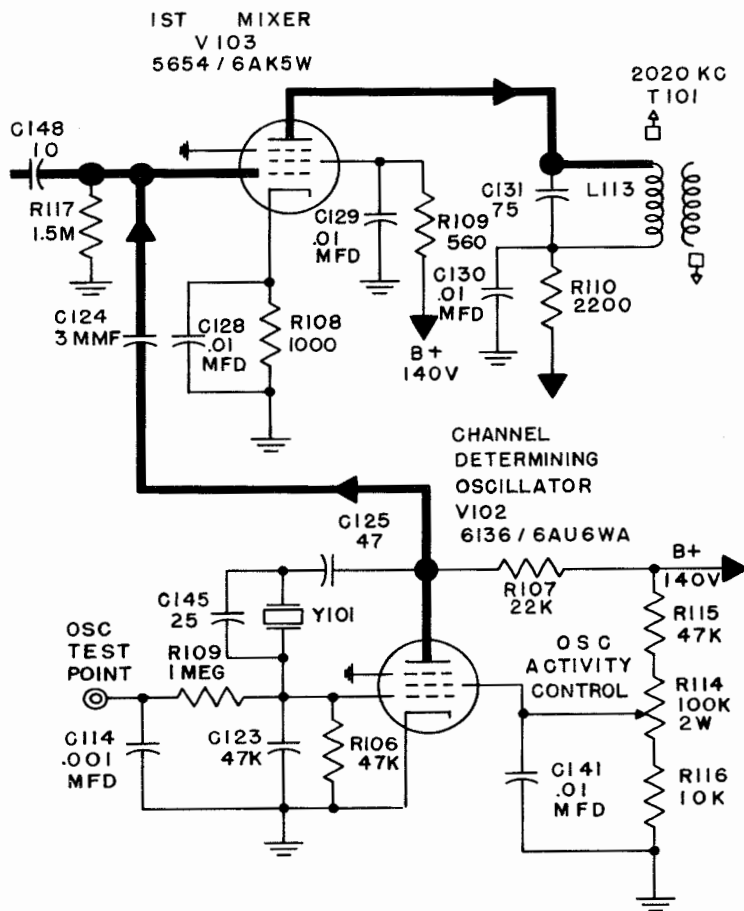

Figure 2-7. Simplified Schematic, 1st Mixer, Channel Determining Oscillator
—This portion of the RF chassis assembly determines the frequency of the signal to which the receiver will respond, if the RF circuits are properly resonated. (See Figure 2-7). It consists of a type 6136/6AU6WA pentode (V102) which functions as a Pierce oscillator, having a range of 6,990 Kc to 14,990 Kc. The oscillator must generate an injection frequency which is 2020 Kc higher than the desired channel frequency in the lower half of Band I for all channel frequencies below 12 megacycles and 2020 Kc lower than the desired channel frequencies above 12 megacycles. In Bands II and III, the second harmonic of the crystal is used.
(4) FIRST MIXER.—As indicated in figure 2-7, the first mixer (V103) uses a 5654/6AK5W tube to mix the output of the RF amplifier with the output of channel determining oscillator (V102) to produce an IF frequency of 2020 Kc. The output of the RF amplifier and the oscillator are applied to the grid (pin 1) of V103. The difference of these two frequencies, the 2020 Kc IF, is selected by the plate circuit, C131 and L113, which is resonated to 2020 Kc. Plate voltage is applied to V103 through isolation resistor R110 which is bypassed by C130. V103 cathode bias is obtained by means of cathode resistor R108, which is bypassed by C128. No additional bias in the form of AGC voltage or RF GAIN control voltage is applied to the grid of V103.